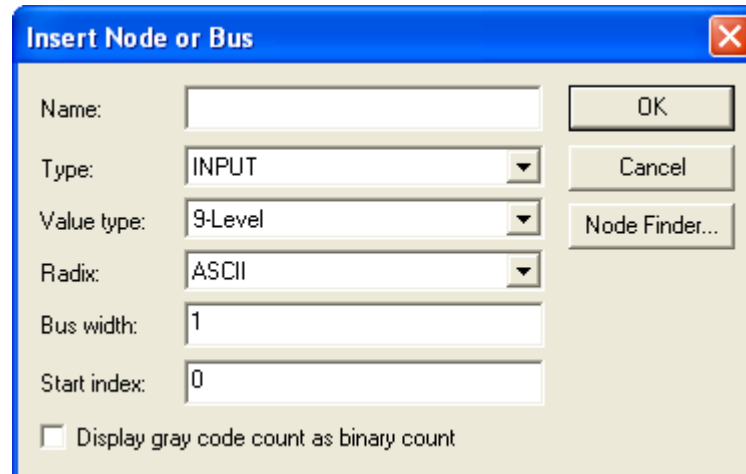
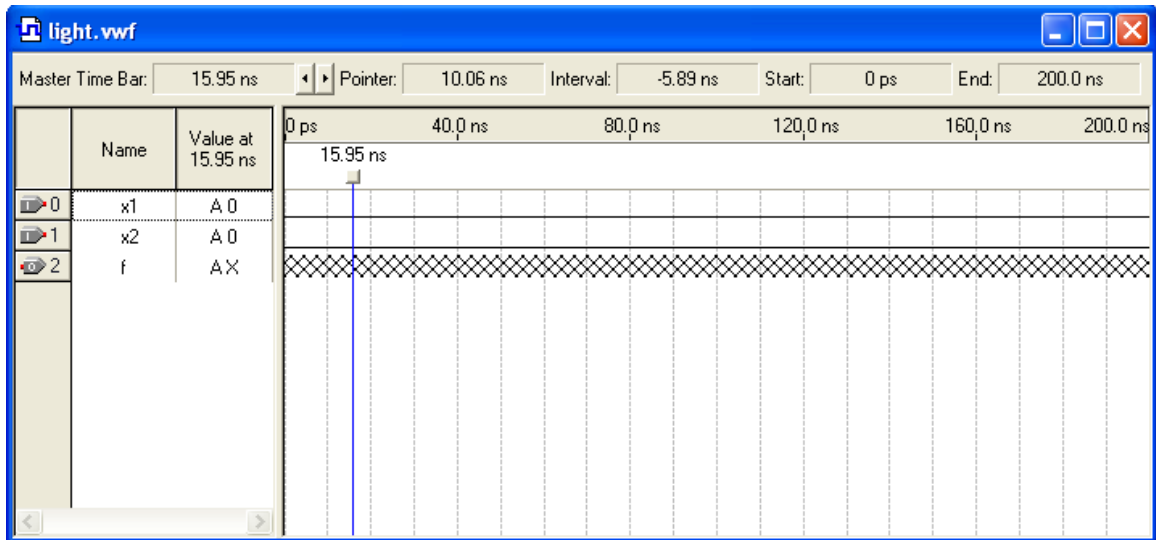

Figure 8 The Insert Node or Bus dialogue.
Figure 10. The nodes needed for simulation.
1. Click Edit > **Insert > Insert Node or Bus** to open the window in Figure 8.
4. Do the same for **x2** and **f**. Click **OK** to close the Node Finder window, and then click **OK** in the window of Figure 8. This leaves a fully displayed Waveform Editor window, as shown in Figure 10. If you did not select the nodes in the same order as displayed in Figure 10, it is possible to rearrange them. To move a waveform up or down in the Waveform Editor window, click on the node name (in the **Name** column) and release the mouse button.